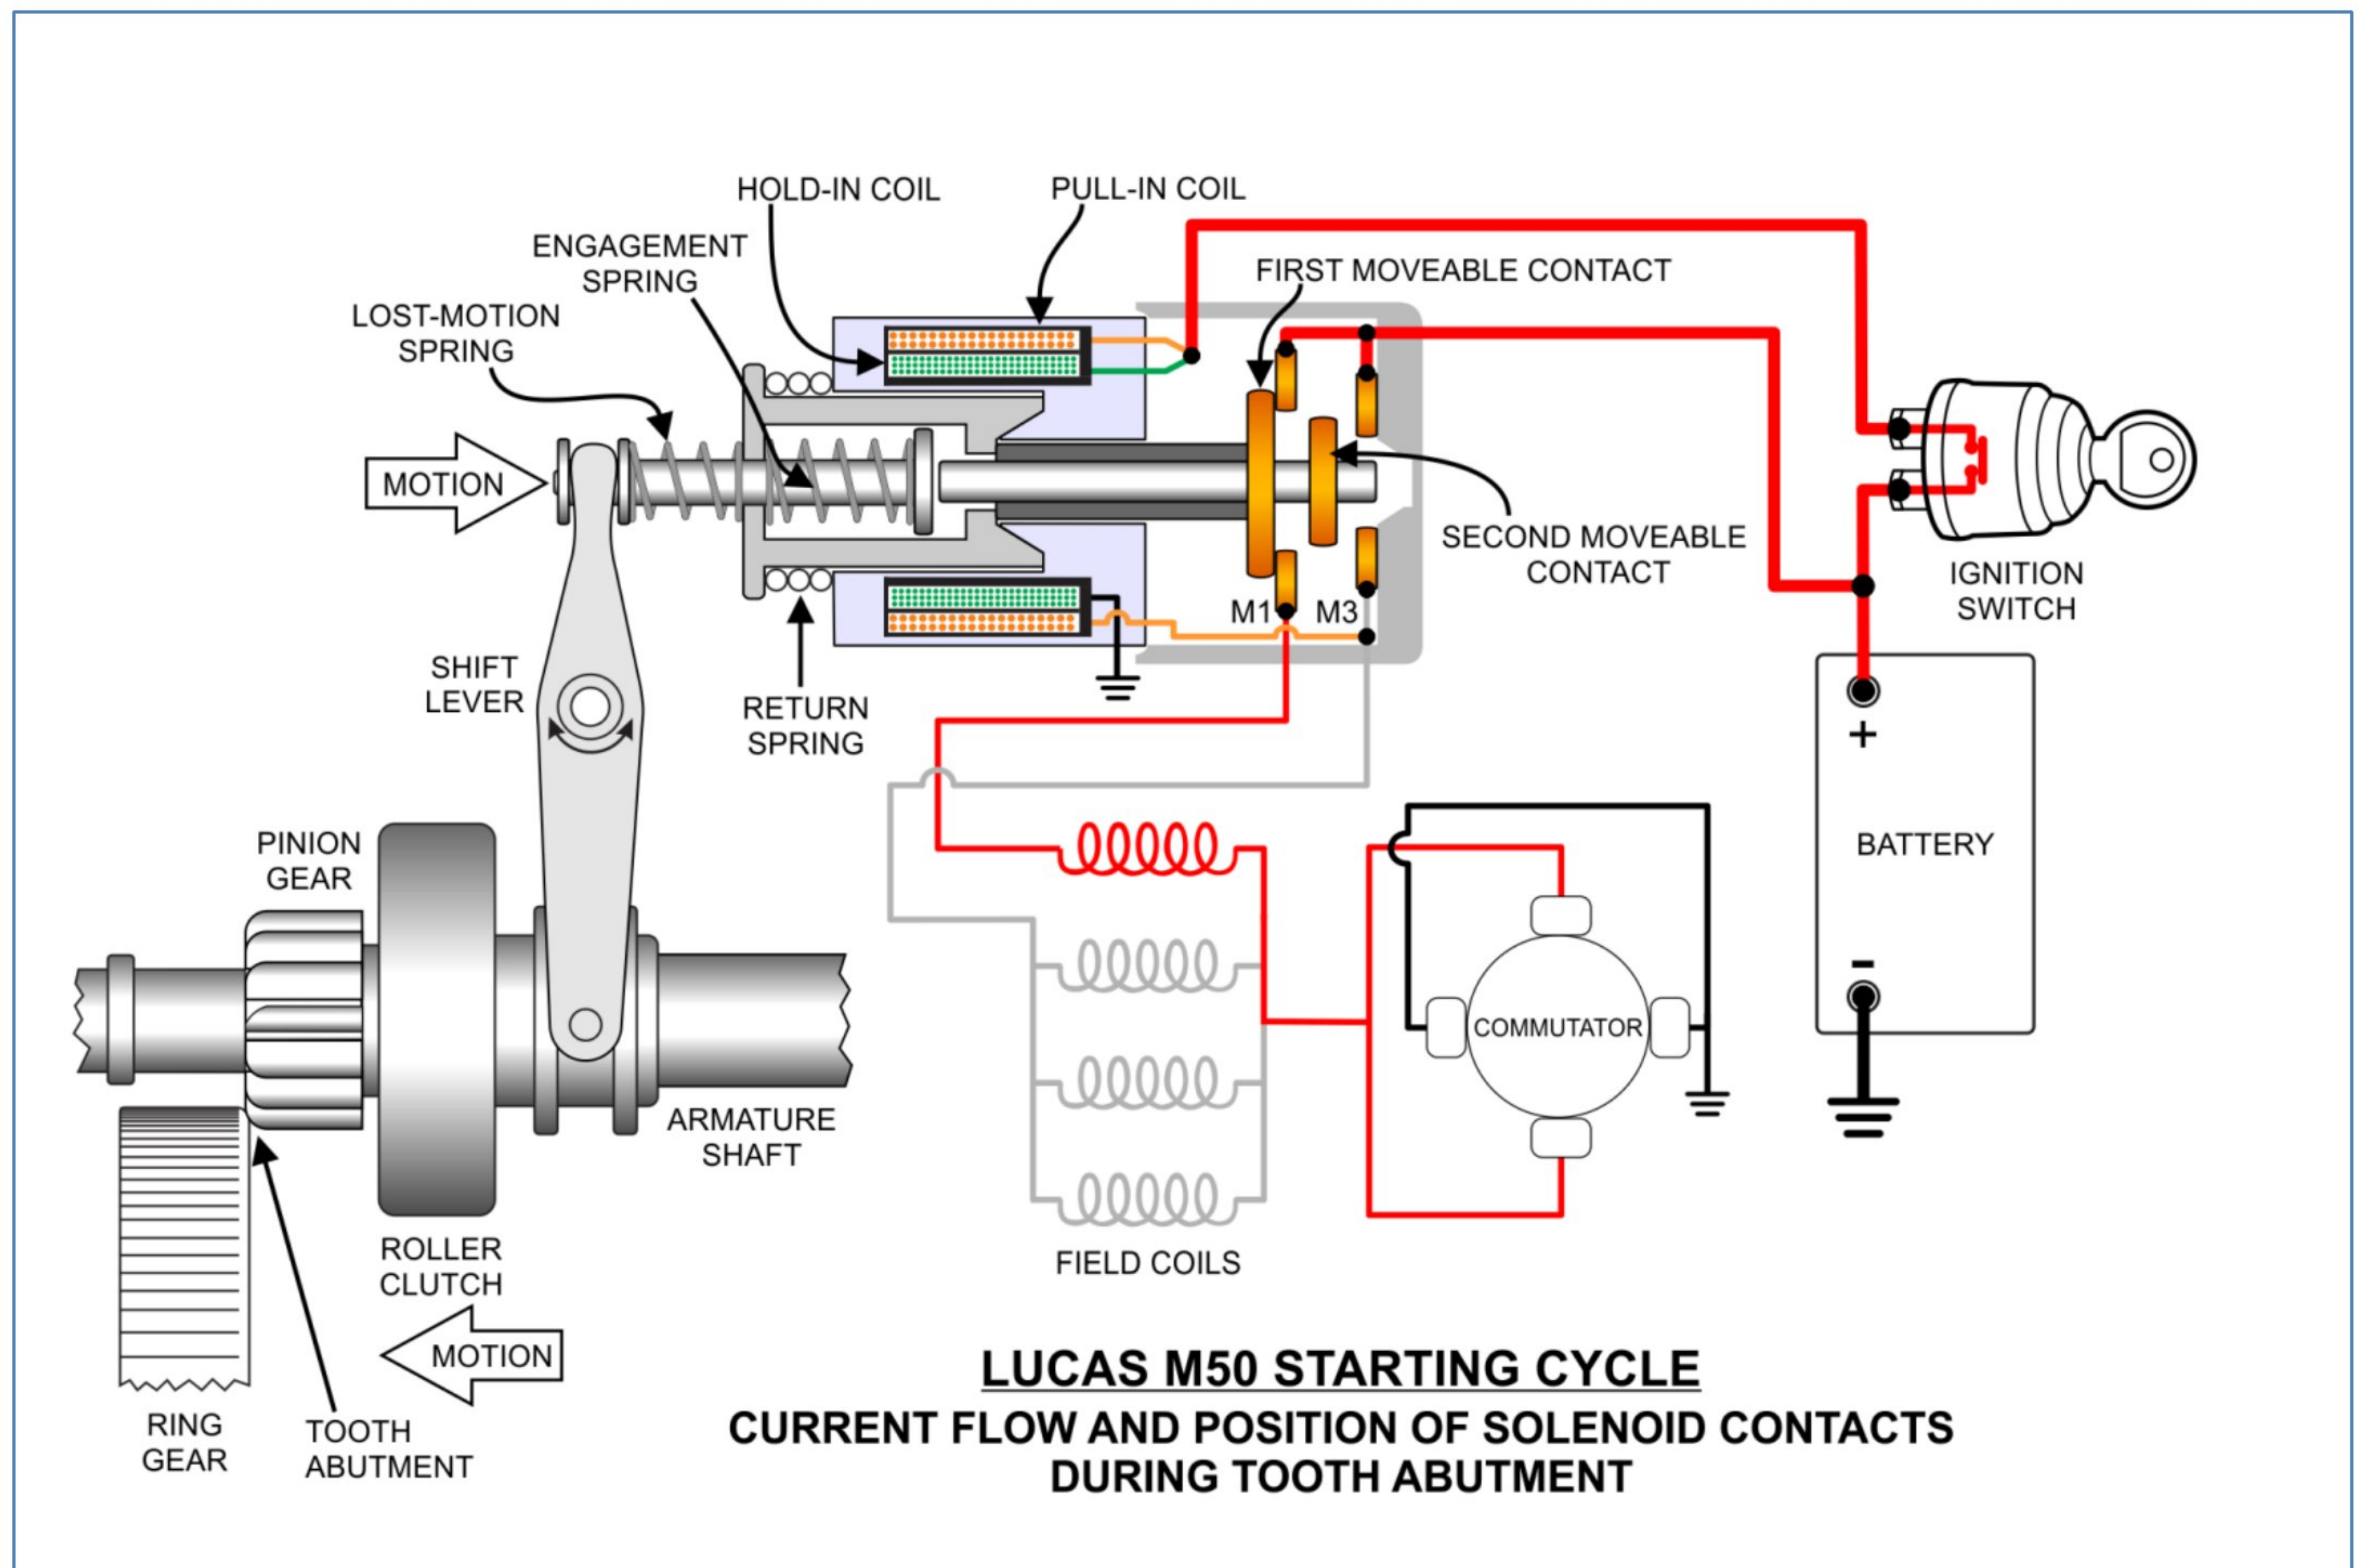

Figure 8—Starter Drive and Ring Gear Tooth Abutment
Step 1: As the solenoid plunger starts to pull in, the drive starts to engage the ring gear. Almost immediately the M1 contacts close. This means that current flows through the single shunt coil. Together with the pull-in coil current through M3, we now have enough current to make the armature rotate slowly. If it should happen that we get tooth abutment at first (see Figure 8), then the linkage will not allow the M3 contacts to close yet.